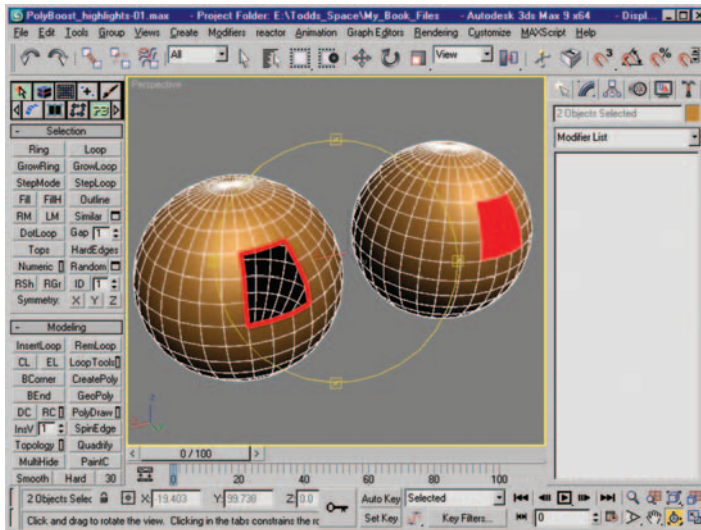

Figure 12.13 Border selection and resulting polygon after using Cap.
15. At the Border subobject level, select the open border (Figure 12.13, left), and use Cap to create a single polygon that fills the opening (Figure 12.13, right). *Note: The new polygon is a 12-sided N-gon.*